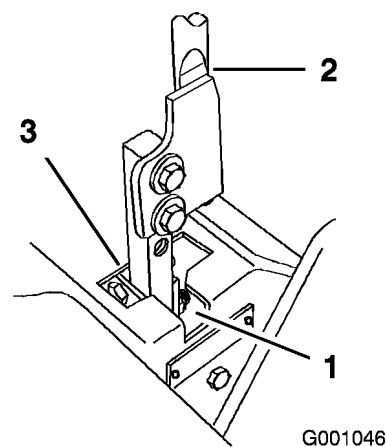

Figure 49
5. Move lever to the neutral position but not locked (Figure 49).
7. Check where the control lever is relative to the notch in the console (Figure 49). It should be centered, allowing the lever to pivot outward to the neutral lock position.